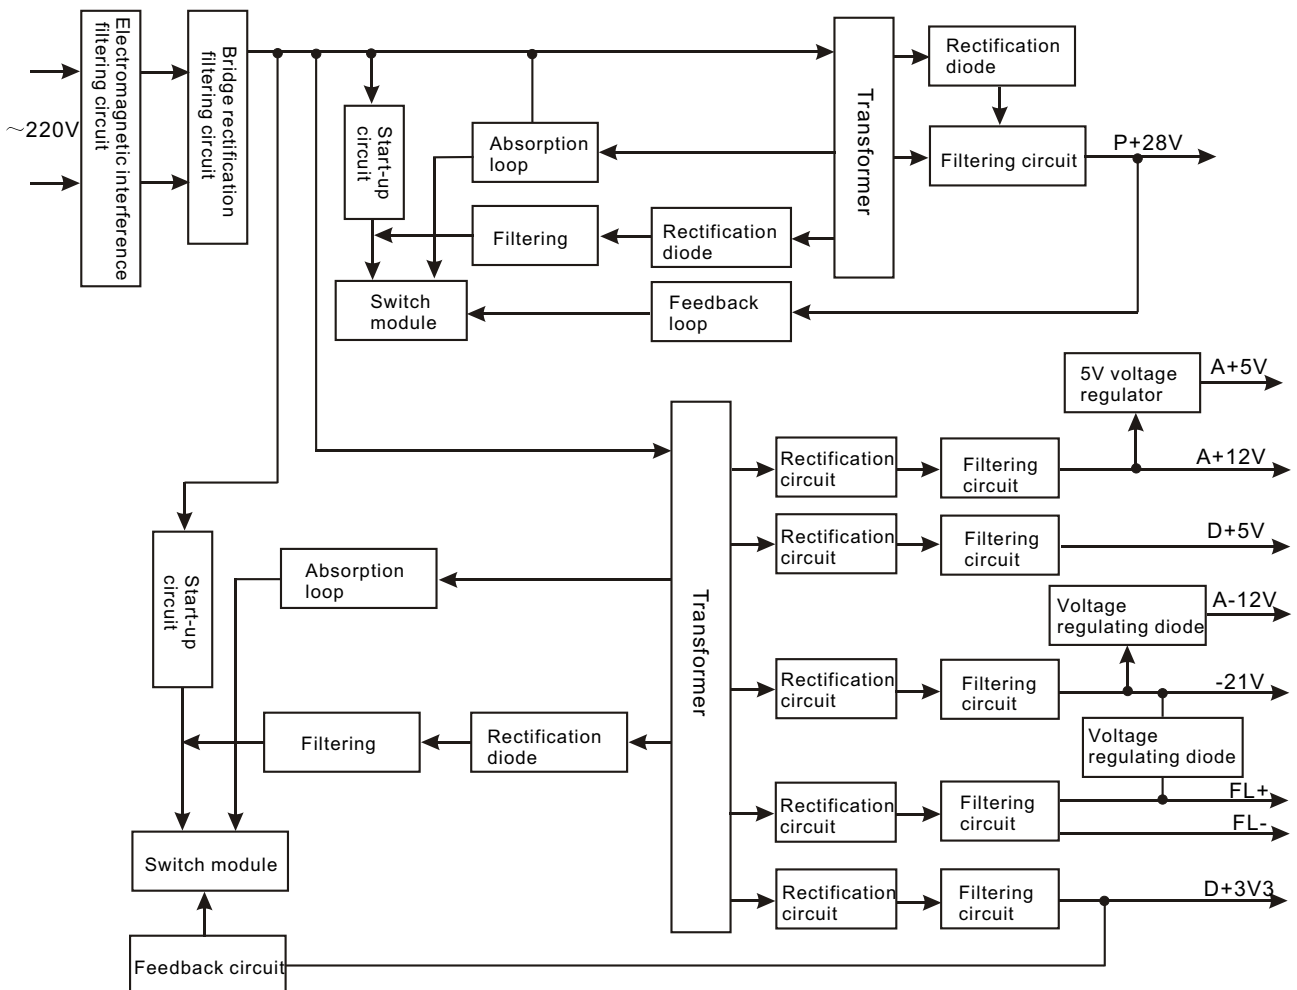

Figure 3.2.6.1 Powercircuit block diagram
1. Power circuit block diagram is shown in the following figure 3.2.6.1: